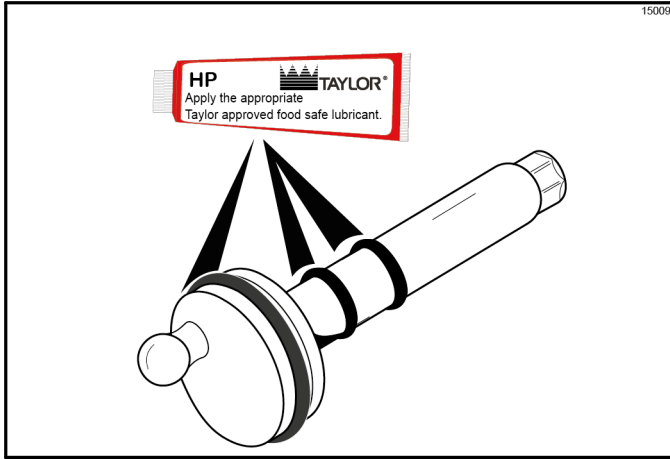

Figure 6-28
- Slide the large O-ring and two small O-rings into the grooves on the pump driveshaft. Thoroughly lubricate the O-rings and the shaft. **Do not** lubricate the hex end of the shaft. (See Figure 6-28.)